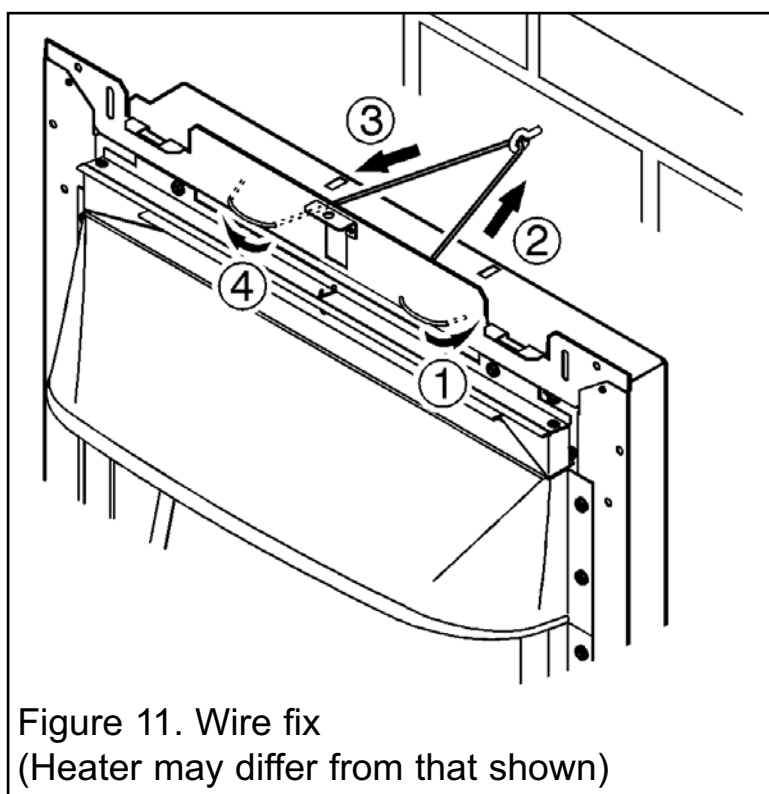

Figure 11. Wire fix
7. At the top of the heater there are four small holes, two each side of the heater. From the front of the heater, thread about 50mm of the wire into the outside small hole on the right side of the heater (See item 1 - figure 11).
8. Thread the other end of the wire through the remaining small hole to the left. Continue to push the wire through this hole until there is only a small loop of wire at the front of the heater (See item 2 - figure 11).
9. At the back of the heater there will be a long piece and a short piece of wire coming through the two holes. Hold the short piece and give the long piece a gentle tug. This will secure the wire. Take the long piece and thread this through the eyescrew in the back of the fireplace opening (See figure 11).
10. From the back of the heater thread the long piece of wire through the inner small hole on the left hand side of the heater (See figure 11).
11. Locate the heater in the fireplace opening, then from the front of the heater, gently pull the wire on the right hand side to gather up the excess until the heater is secure. Thread the wire through the remaining small hole to lock the wire and heater in place (See item 4 - figure 11).